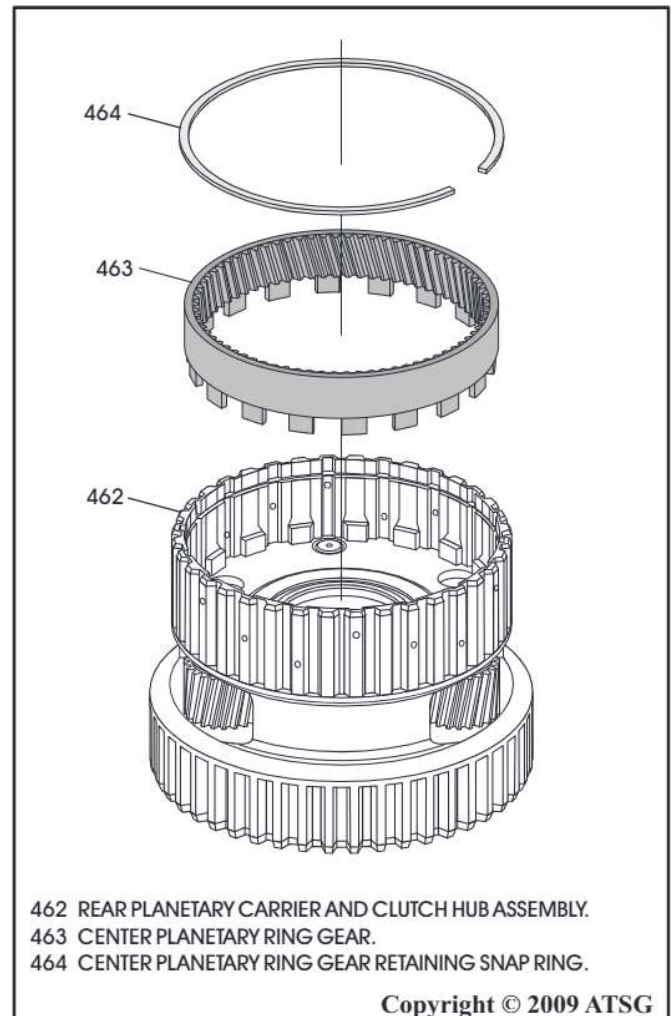

Figure 140
39. Install the center planetary ring gear into the rear planetary carrier and clutch hub assembly, as shown in Figure 140.
40. Install the ring gear retaining snap ring into the rear planetary carrier, as shown in Figure 140, and ensure it is fully seated.